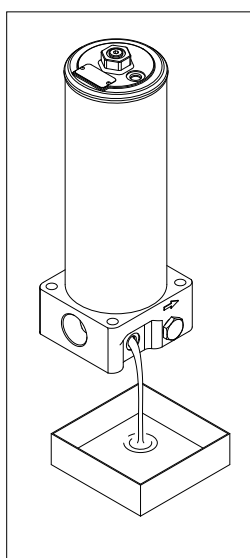

fig. 15
- (Fig. 15) Drain the operating fluid from the bottom of the head into the collection vessel